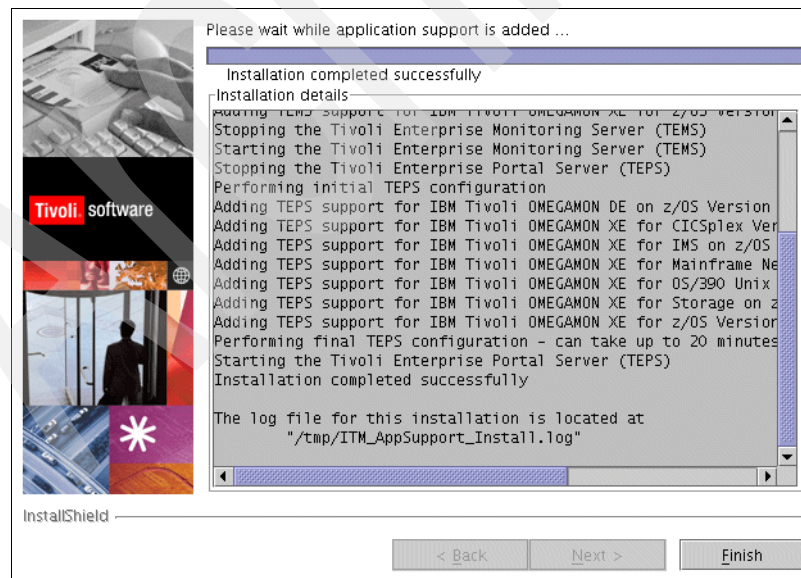

Figure 3-62 Installation success
6. Figure 3-62 shows that the installation completed successfully.